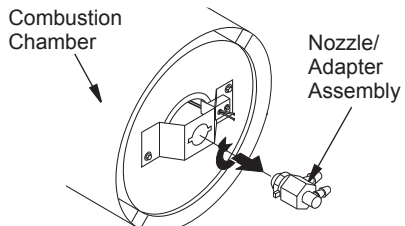

Figure 18 - Removing Nozzle/Adapter Assembly
- Turn nozzle assembly 1/4 turn to left and pull toward motor to remove (see Figure 18).
- Attach nozzle assembly to nozzle adapter bracket (see Figure 18, page 12).